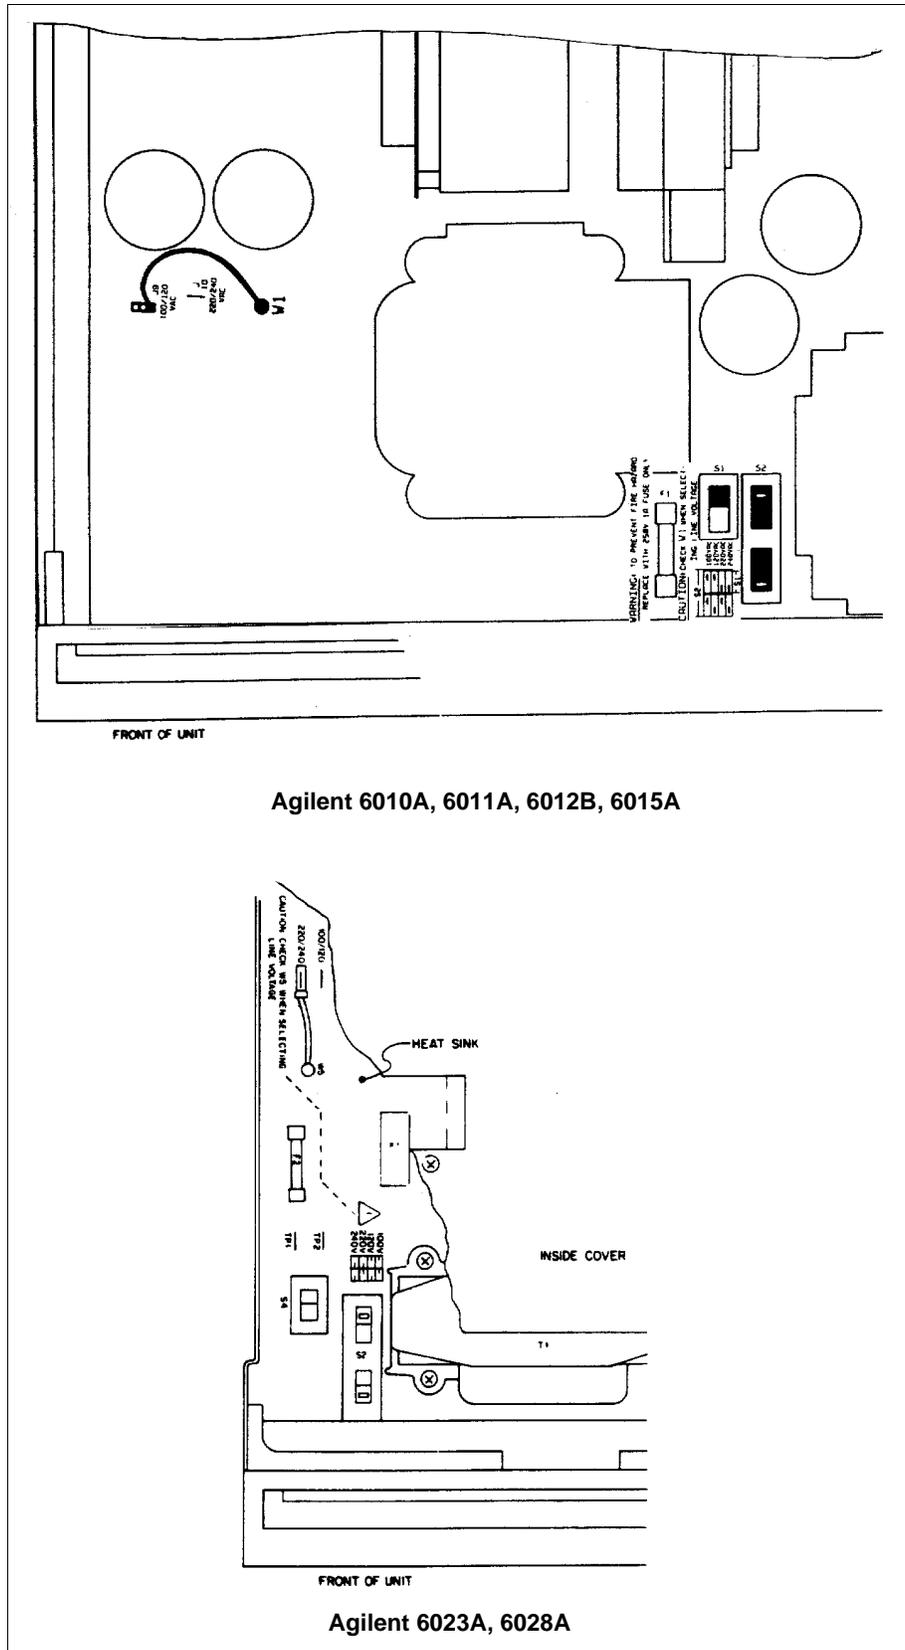

Figure 2-3. Line Voltage Conversion Components
- c. The line voltage select switch (S2) is located in the front left corner of the supply (see Figure 2-3). Use a small-blade screwdriver to set the two switch sections to match the pattern silk-screened on p.c. main board as shown in Figure 2-3. For example, to set switches for 120 V operation (as illustrated), move forward switch section so that its white slot is toward front of supply and move rearward switch section so its white slot is toward rear of supply.